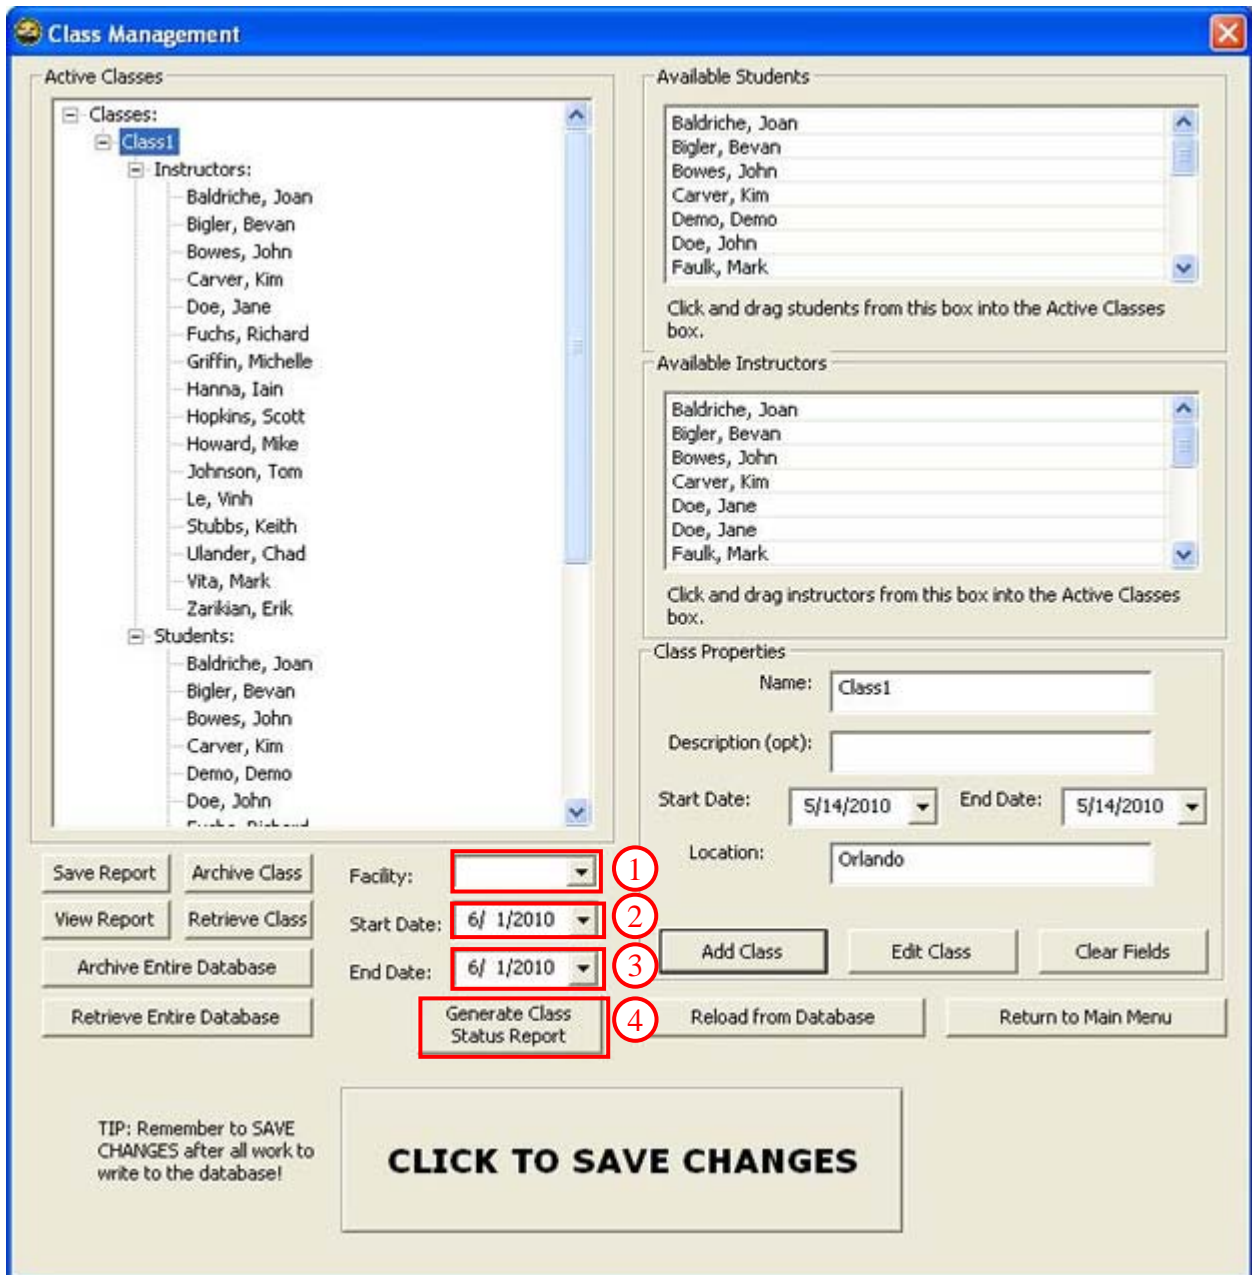

Figure 97. Class Management - Generate Report
2. Click the drop-down arrow on the **Start Date** and select the desired begin date for the report. The date can also be typed manually in the date field (Figure 97).